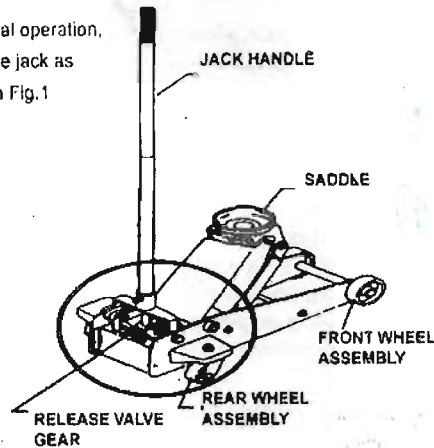

Figure 1
indicated in Fig.1
2. Keep your jack clean and lubricate, as well as the outside parts see figure 1.